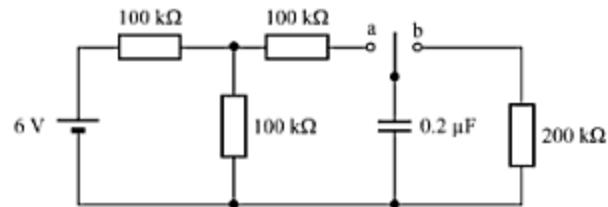

Fig. 8.27
18. In the network of Fig. 8.27, the switch is closed on to position a when $t = 0$ and then moved to position b when $t = 20$ ms. Determine the voltage across the capacitor when $t = 30$ ms. [Ans. 1.14 V]